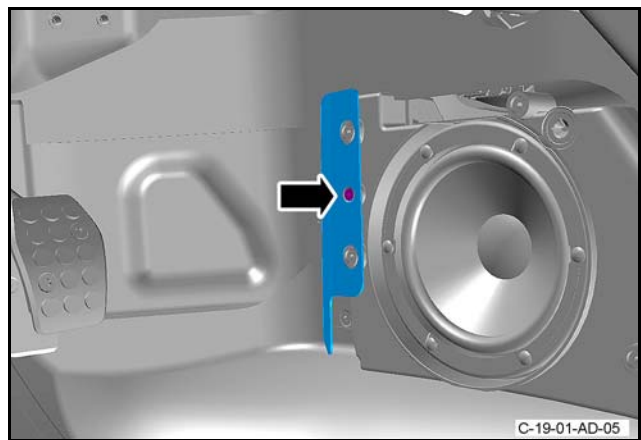

Figure 5
- 19. Remove the screw that attaches the bracket to the footwell speaker and remove the bracket. (refer to Figure 5).